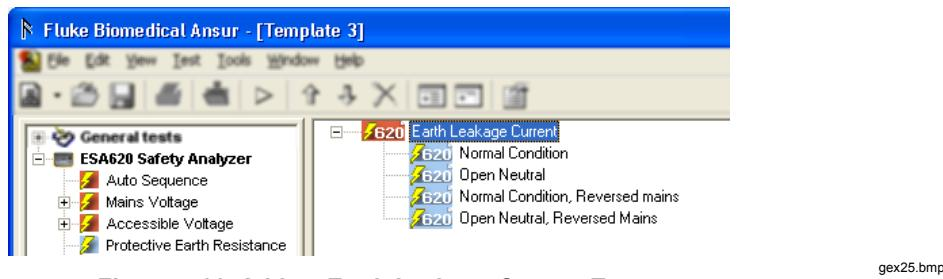

Figure 4-11. Add an Earth Leakage Current Test
1. Create a new test template and add an Earth Leakage Current test group as shown in Figure 4-11.